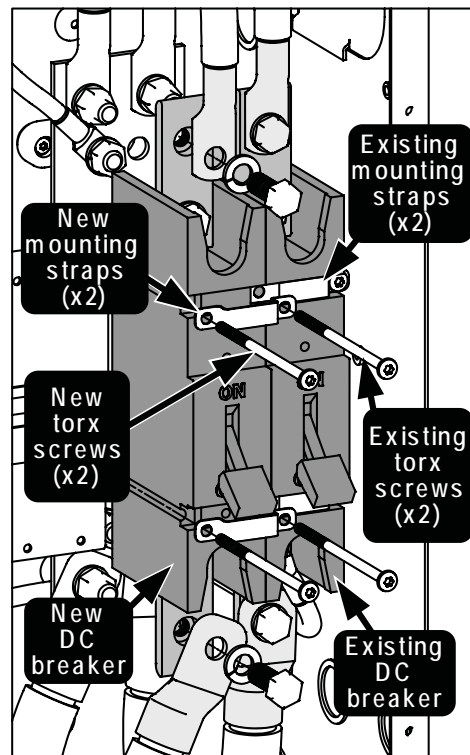

Figure 3, Install New Breaker
4. While holding the new breaker in place, attach two new mounting straps over the new DC breaker. Ensure the holes on the two new mounting straps – that are over the existing DC breaker – line up with the holes on the two existing mounting straps (see Figure 3).